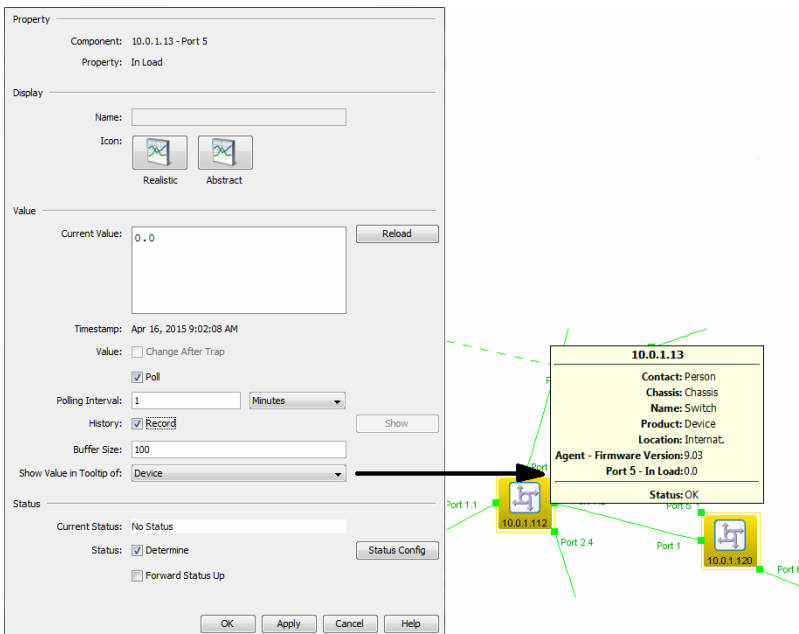

Figure 62: Detail properties
- ▶ With “Buffer Size” you specify how many lines the protocol buffers. If you also want to display this value in the bubble help of a higher-level component, you select the component in the “Show Value in Tooltip of” drop-down list(see figure 62).